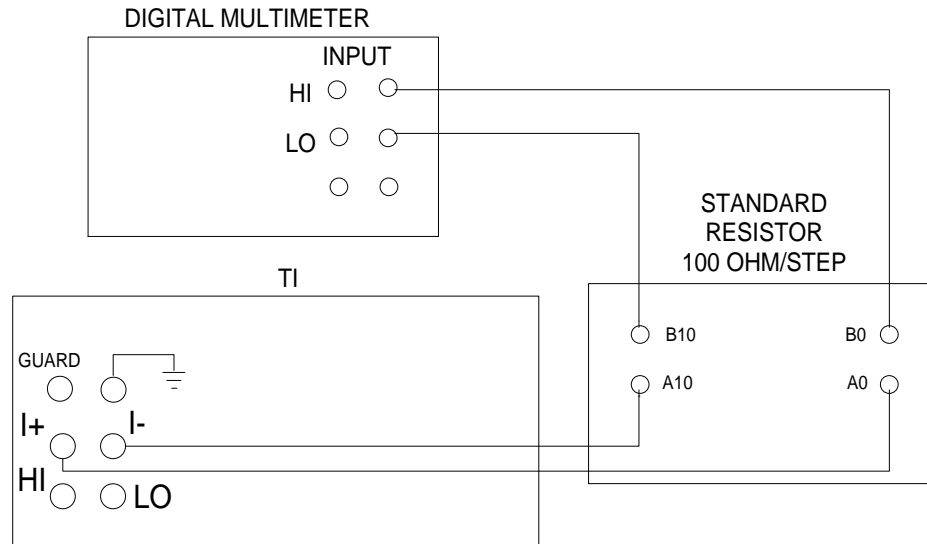

Figure 4.
4.6.1 Connect equipment as shown in Figure 4.
4.6.15 Change Figure 4 Standard Resistor connections for the TI 10m Range listed in Table 8 as follows: TI I+ and I- terminals to the Standard Resistor A0 and C1 terminals, respectively; Standard Resistor B0 and B1 terminals to the Digital Multimeter HI and LO terminals, respectively.